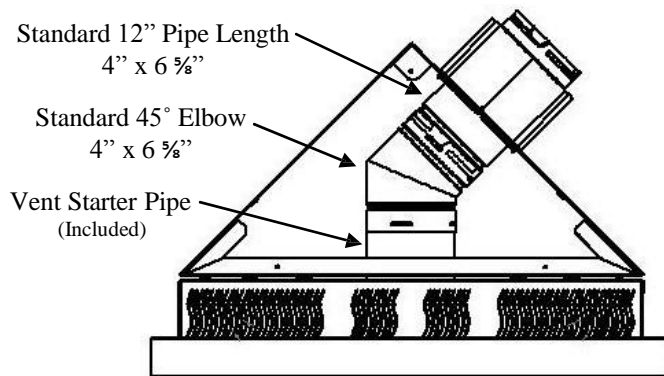

Fig. 6
STEP 6: Mount the unit on the wall mount and complete the installation as described in the installation instructions supplied with the fireplace. See Fig. 6 & 7.